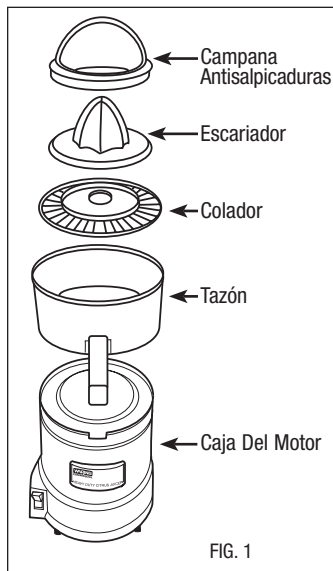

FIG. 1
### DISASSEMBLING: (SEE FIG. 1)
1. After removing your Citrus Juicer from the box, familiarize yourself with the parts by disassembling the unit while referring to FIG. 1.
### ASSEMBLING: (SEE FIG. 1)
### DESMONTAJE: (VÉASE FIG. 1)
### MONTAJE (VÉASE FIG. 1)